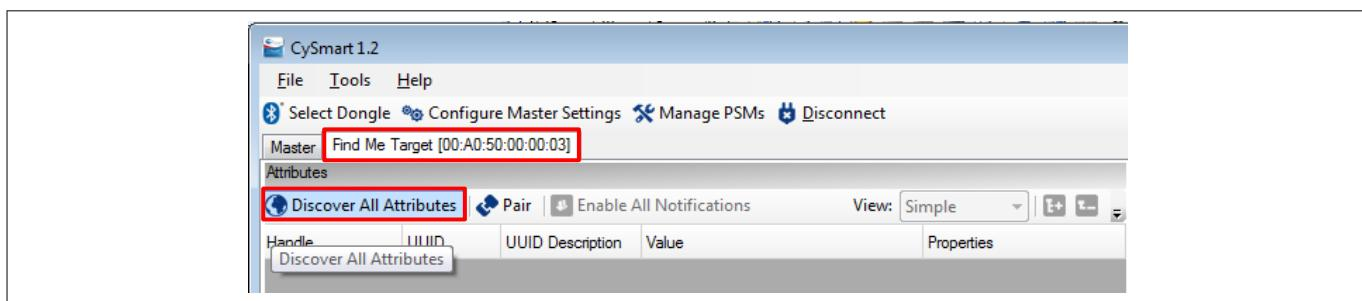

Figure 120 CySmart attribute discovery
- Once connected, switch to the **Find Me Target** device tab and discover all the attributes on your design from the CySmart Host Emulation Tool, as shown in Figure 120